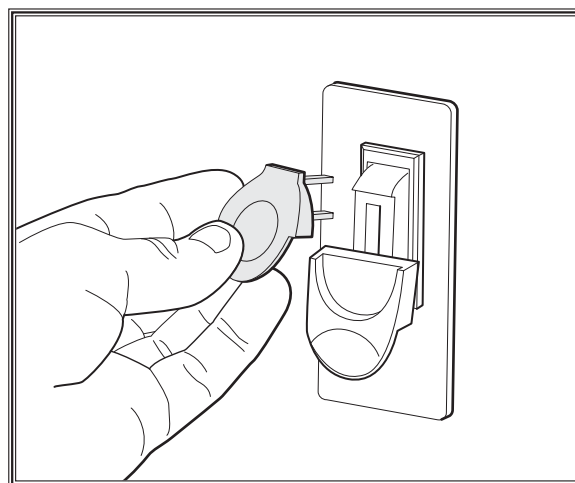

Figure 17. Inserting removable key into ON/OFF paddle switch.
2. Insert removable key into paddle switch (see Figure 17) and connect machine to power supply.